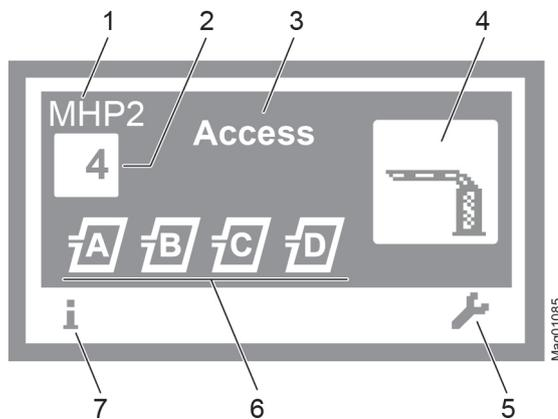

Fig. 15: Example "Operational view"
1. The operating view is displayed. → Refer to page 27, Fig. 15.